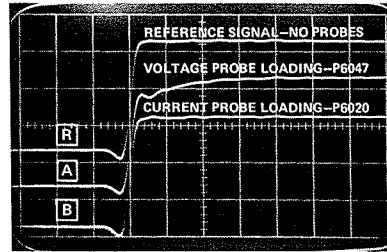
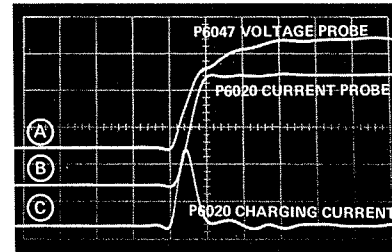

Fig 2. CRT display of oscilloscope under test. Probes are applied to deflection plate circuitry as shown in fig 4.
Fig 3. Test oscilloscope (Type 454).
Note in fig 3 that the P6020 current wave-shape ③ is an accurate representation of the reference signal in fig 2 ② and does not distort the reference signal ①. The P6047 loads the signal severely ① and distorts the probe source as shown in fig 2 ①. Additional information that only a current probe can display is the initial charging current necessary to charge the CRT capacitance ③.